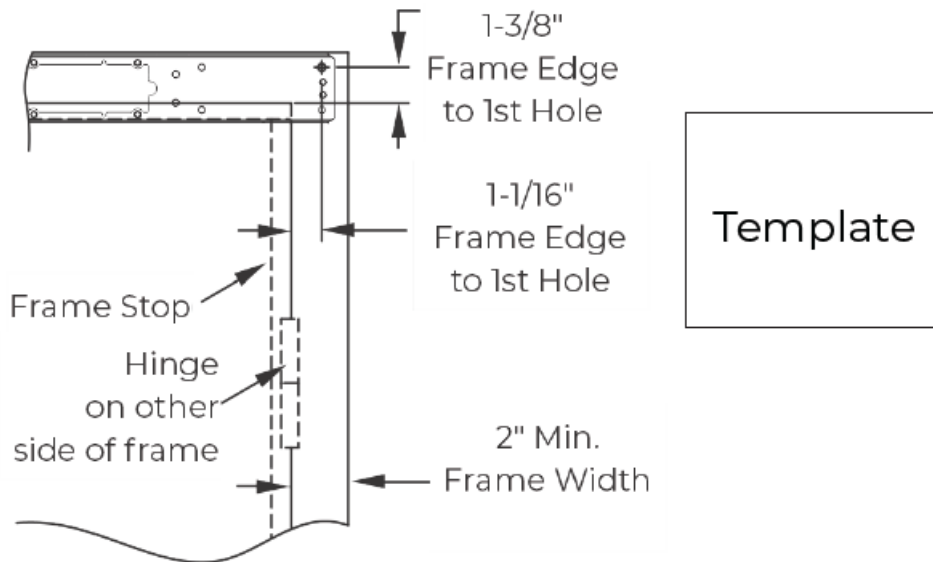

Figure 2
2. Measure and mark the first mounting hole according to the template. (Figure 2)